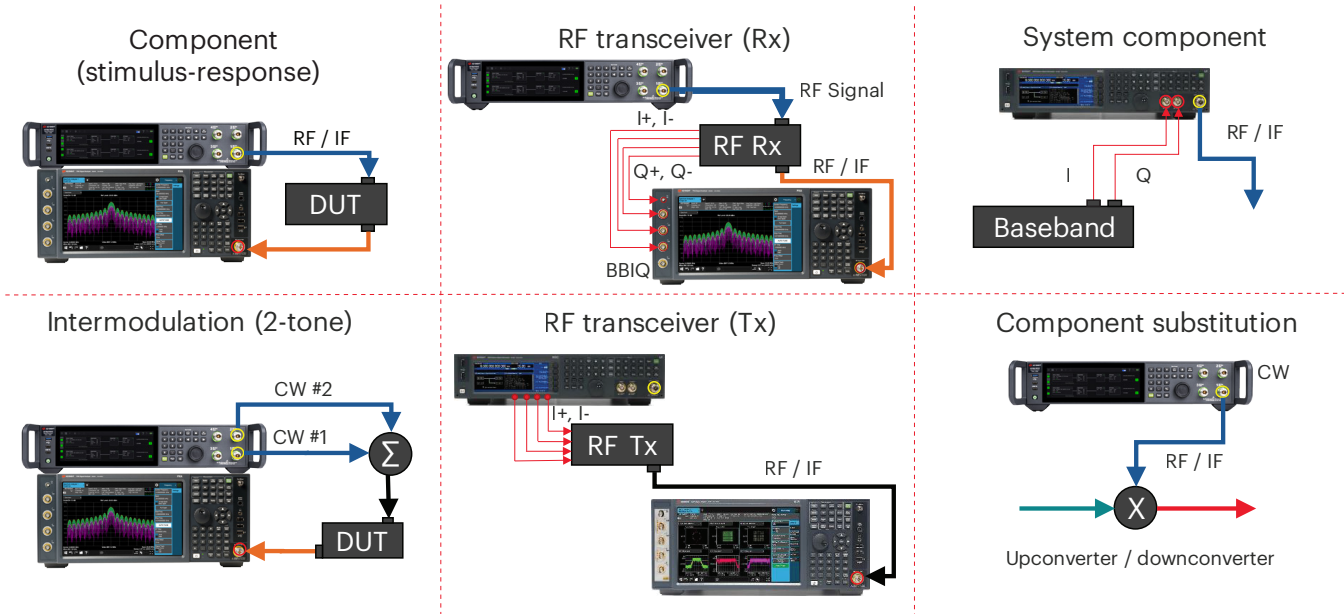

Figure 1-1. Signal generator use cases for component characteristic tests or a system component
Engineers use signal generators to test components, receivers, and systems for a variety of applications throughout the product development cycle. The output signal can be as simple as a continuous wave (CW) or complex, like a digitally modulated signal. The signal generator simulates a variety of signals at different stages of communication systems. Figures 1-1 and 1-2 show common signal generator use cases for component and receiver test.